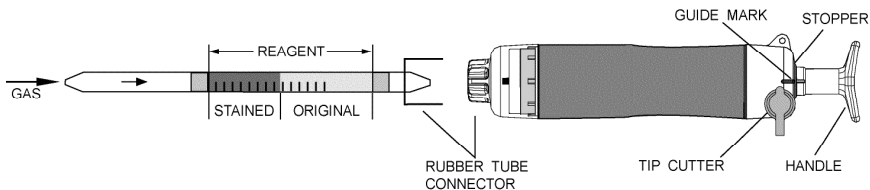

Fig.1
- ② Insert the detector tube into aspirating pump securely as shown in Fig.1. (Arrow mark shall point to the pump.)
- ③ Align the guide marks on the handle and stopper of the aspirating pump.
- ④ Pull the pump handle at full stroke until it locks and wait for 3 minutes or until the completion of sampling is confirmed with the flow indicator of the pump (See descriptions about the flow indicator in the instructions of the pump).
- ⑤ On completion of sampling, read the scale at the maximum point of the stained layer.
- ① Temperature: Correct the tube reading by following temperature correction table.